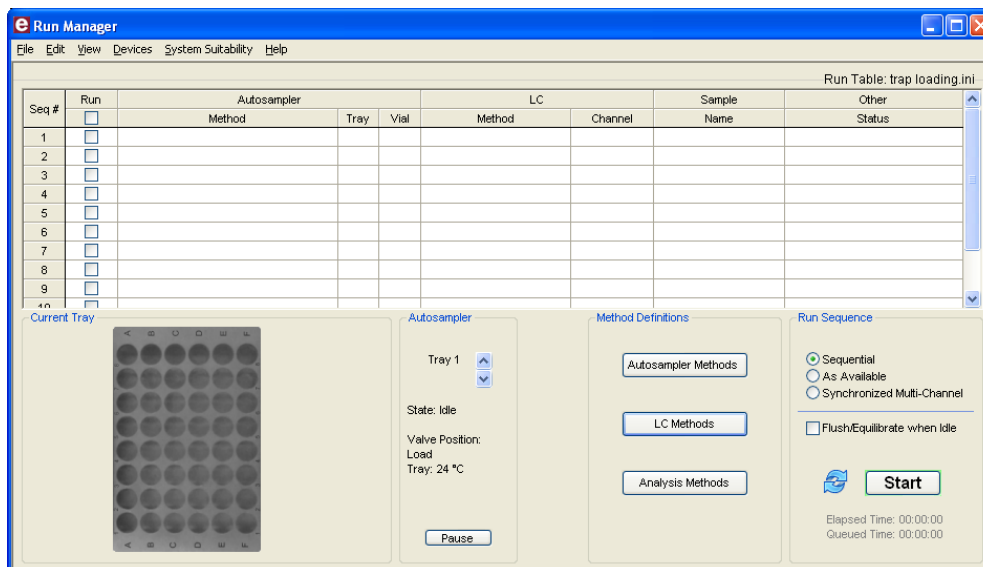

Figure 4-16 Creating a New Run Table
2. Create a new, blank Run Table by selecting **Edit > Erase Table** (Figure 4-16).
13. Now that the run table has been defined (Figure 4-16), save it by selecting **File > Save**.